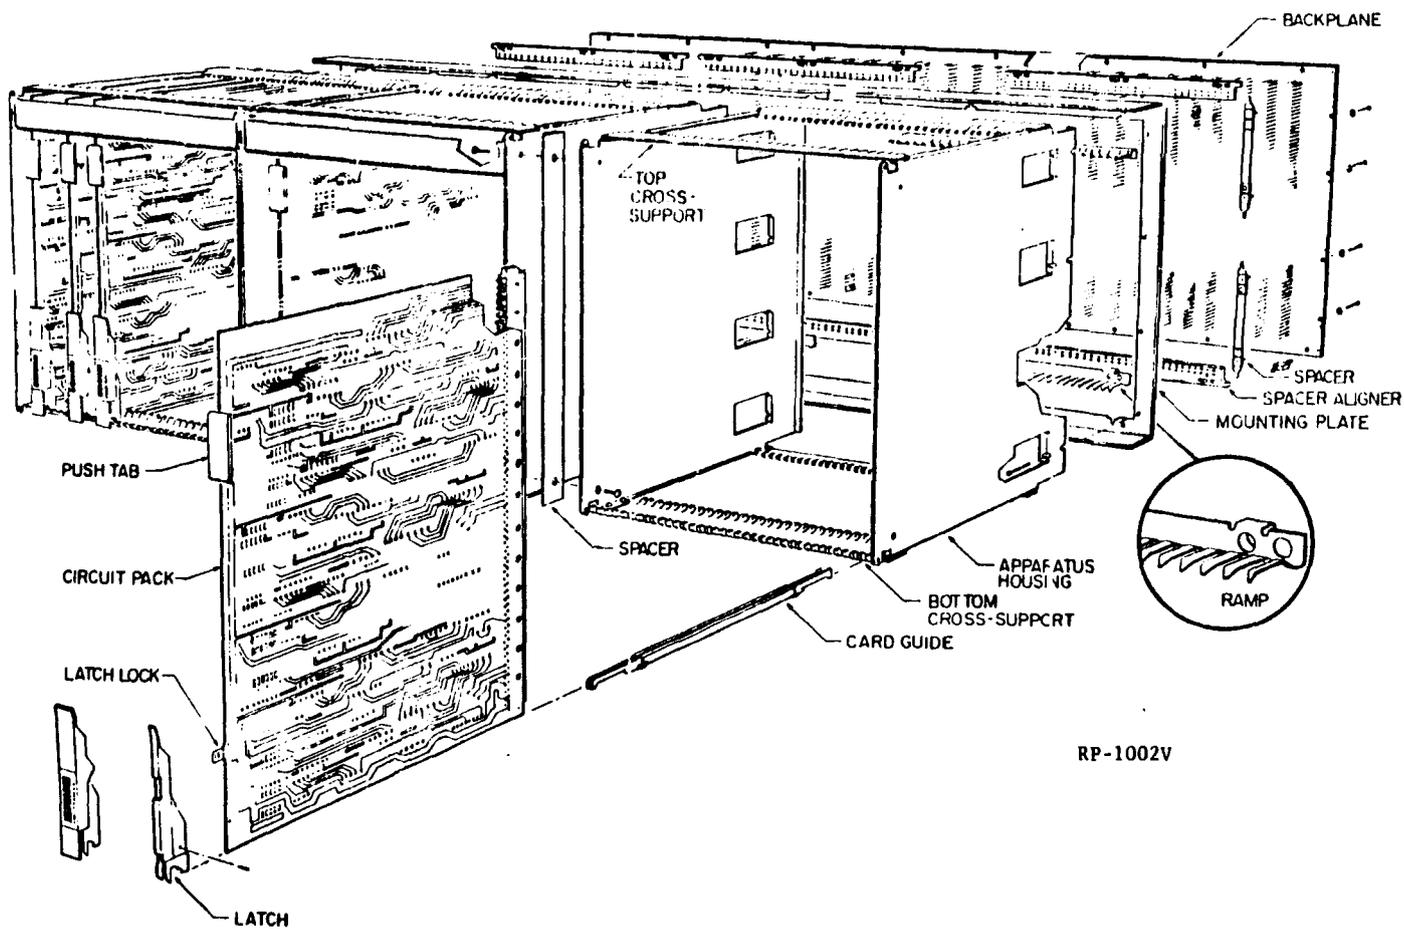

FIG. 1 (PAR 1.1.2 and 2.2.2)
1.1.2 The basic building block concept of BELLPAC Technology is illustrated in Figure 1. Two significantly outstanding differences between BELLPAC and 1A technology appear as follows:
1.1.2.1 As Figure 1 illustrates the circuit cards with the attached 963 type connectors (female contacts) mate directly to the .025 square (.125 grid) pins of the backplane. Proper alignment of the circuit card to the pin field is assured by the card guide and the parts identified as ramp and spacer aligner.
1.1.2.2 The support structure for a BELLPAC Backplane as shown in Figure 1 is the mounting plate. The backplane is self-aligning via precision holes and pins. The apparatus housings fasten to the mounting plate and provide support for the circuit cards.
2.2.2 Shelf Assemblies - A typical shelf assembly includes several apparatus mountings, a mounting plate, backplane subassembly, card guides, designation strip, and coded circuit packs (see Figure 1). BELLPAC Shelf Assemblies are removable from the front of the equipment framework to enable rapid replacement.